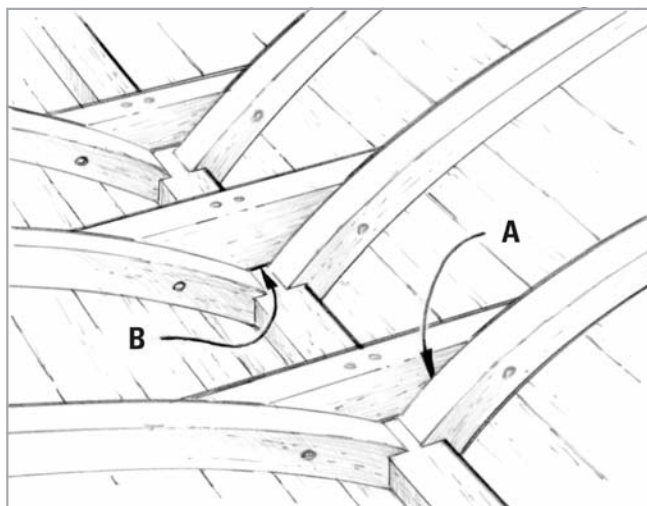

Figure 4-9 *Inspect the floors, keel and frames for gaps or signs of movement.*
- A. Inspect the area where the floors attach to the frames. Look for signs of movement between the floors and the frames (*Figure 4-9*).